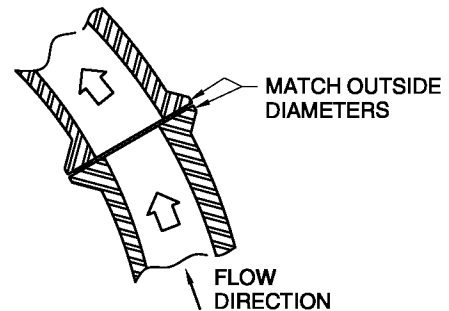

Fig. 3
3. Place the two bend segment mating surfaces together, ensuring that both outside diameters are perfectly matched to each other (see Fig. 3).